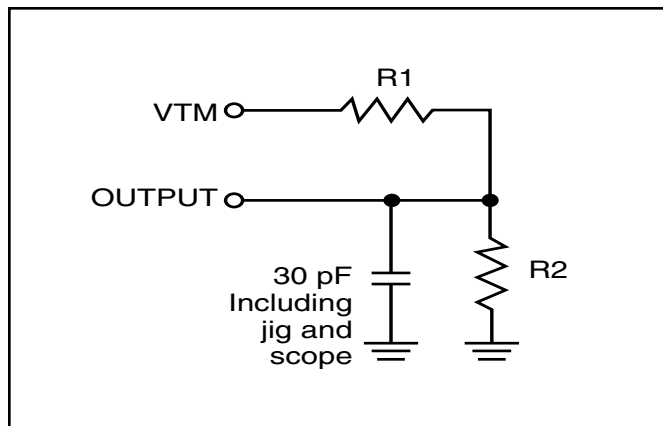

Figure 1
1. Test conditions assume signal transition times of 5 ns or less, timing reference levels of 0.9V/1.5V, input pulse levels of 0.4 to V_{DD}-0.2V/0.4V to V_{DD}-0.3V and output loading specified in Figure 1.